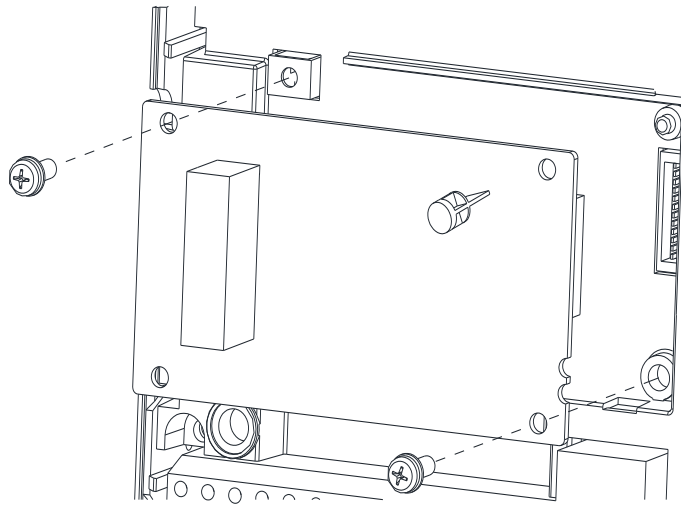

Figure 2
Step2: Please lock the two M3 screws with screwdriver according to the torque of 4-6kgf.cm and the direction showed in Figure 2.